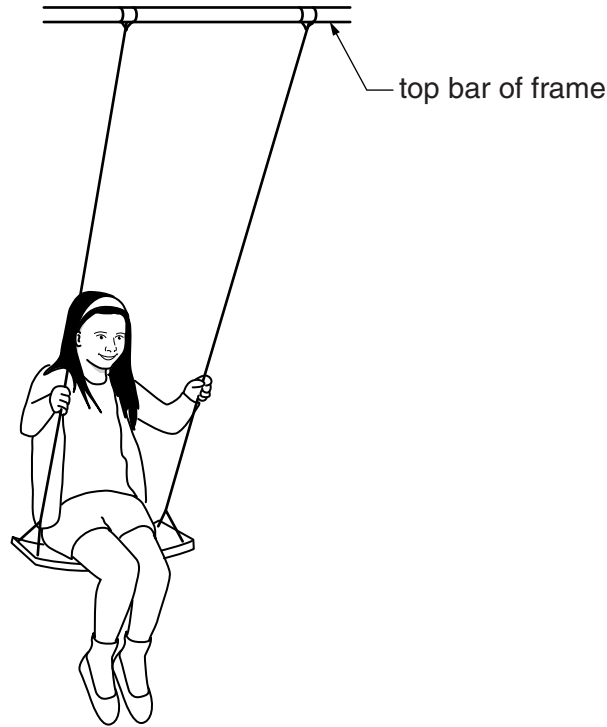

Fig. 8
- 8 Fig. 8 shows an incomplete idea for a child's swing. The frame for the swing will be 10